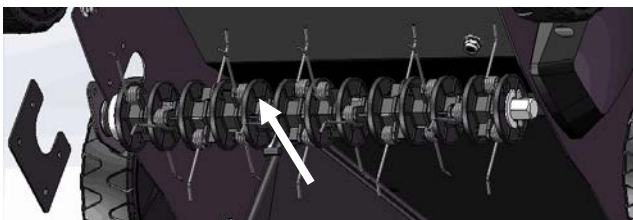
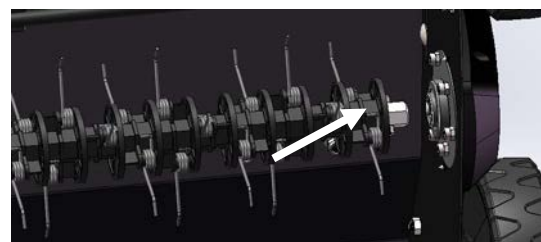
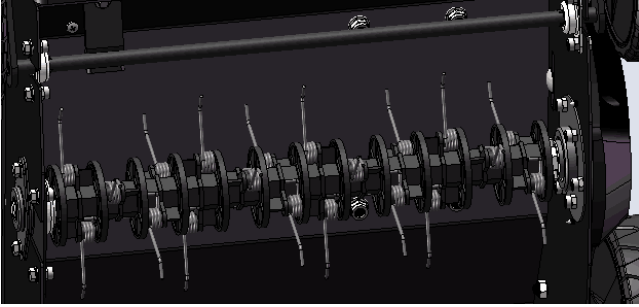

Fig.11F
Fig.11G
Fig.11H
4. Assemble aerator shaft the same as scarifier shaft. (Fig.11F/ Fig.11G/ Fig.11H).